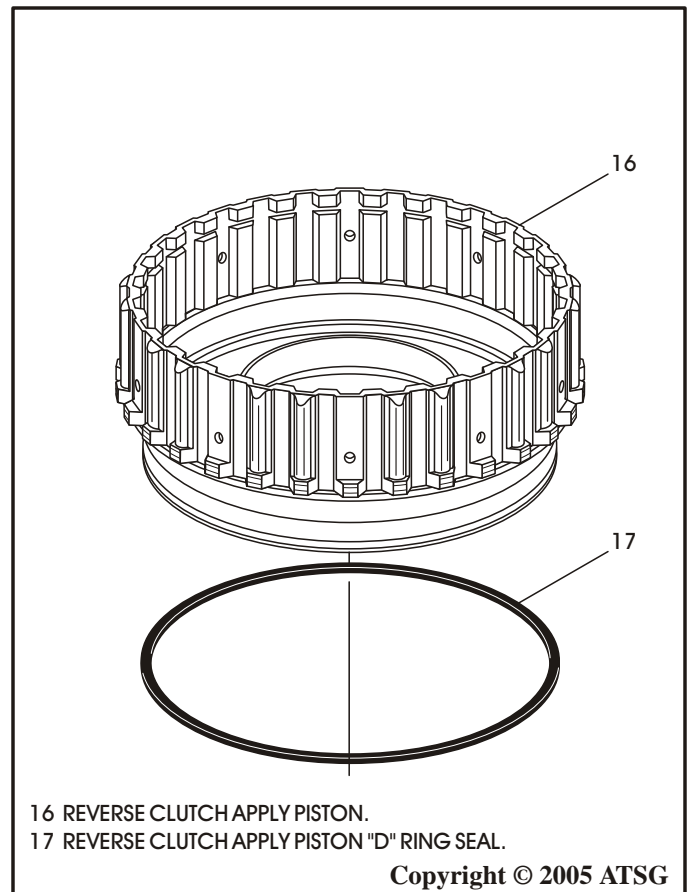

Figure 78
5. Install new outer "D" ring seal onto reverse clutch apply piston, as shown in Figure 78, and lube with small amount of Trans-Jel®.